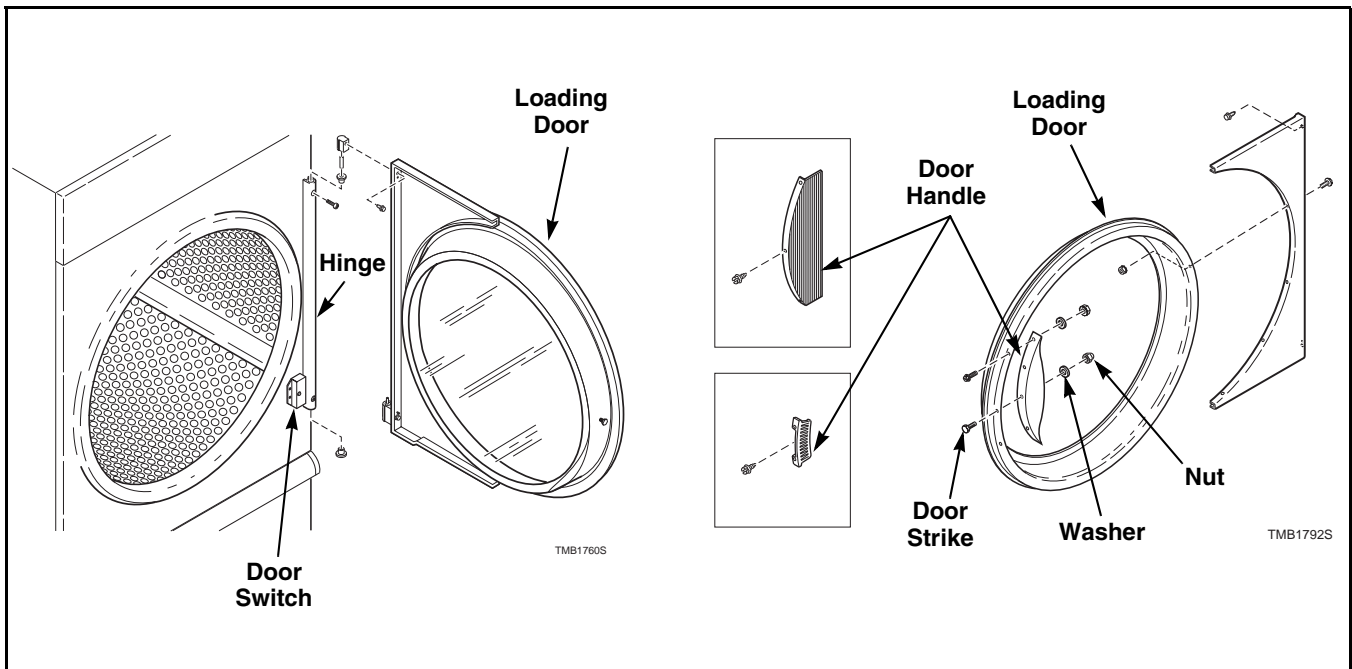

Figure 5
Refer to *Figure 5*.
- s. Remove door strike, door strike nut and door strike washer. Refer to *Figure 5*.